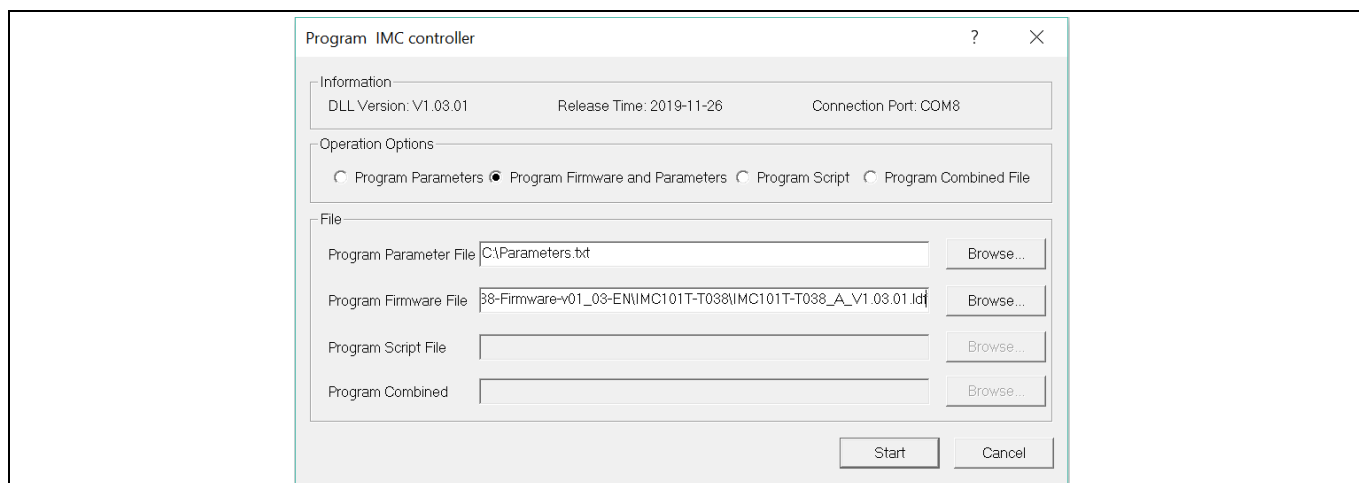

Figure 6 Program the parameters and firmware
5. Use the following steps to program the firmware and the parameters' file into the internal flash memory of iMOTION™ Control IC: click on system page, click “Tools” > “Programmer” and select “Program Firmware and Parameters.” Shown as in Figure 6 below. The encrypted firmware is available at “IMC101T MCE Software Package;” regarding the parameters' file, browse and select the '.txt' file in Section 2.1.2.